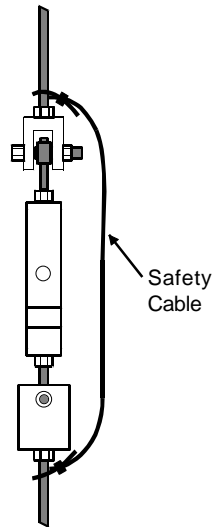

Figure 3-4. Installation Example
- Install safety cable for each Load Link, as shown in Figure 3-4.
- See Table 3-1 and Figure 3-4. Install Load Link and hardware. Refer to Appendix C, Technical Drawings, for typical mounting arrangements and hardware.
4. See Figure 3-4. Install a safety cable, connecting it above and below the Load Link assembly. Leave enough slack in the cable to allow free movement of the Load Link.